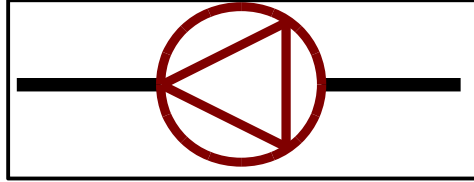

Figure 5 - A component in the loop
4. **Identify the components in the system.** While identifying the main components in the loop, it should be noted that this loop has a primary/secondary pumping setup, and that there is a common pipe that allows for flow imbalance. (Note: The *PlantLoop* object in EnergyPlus has a provision for the input of a common pipe. The user only has to specify the existence of a common pipe in the loop, and the program calculates its position in the loop). The primary pump is shown below in Figure 5.